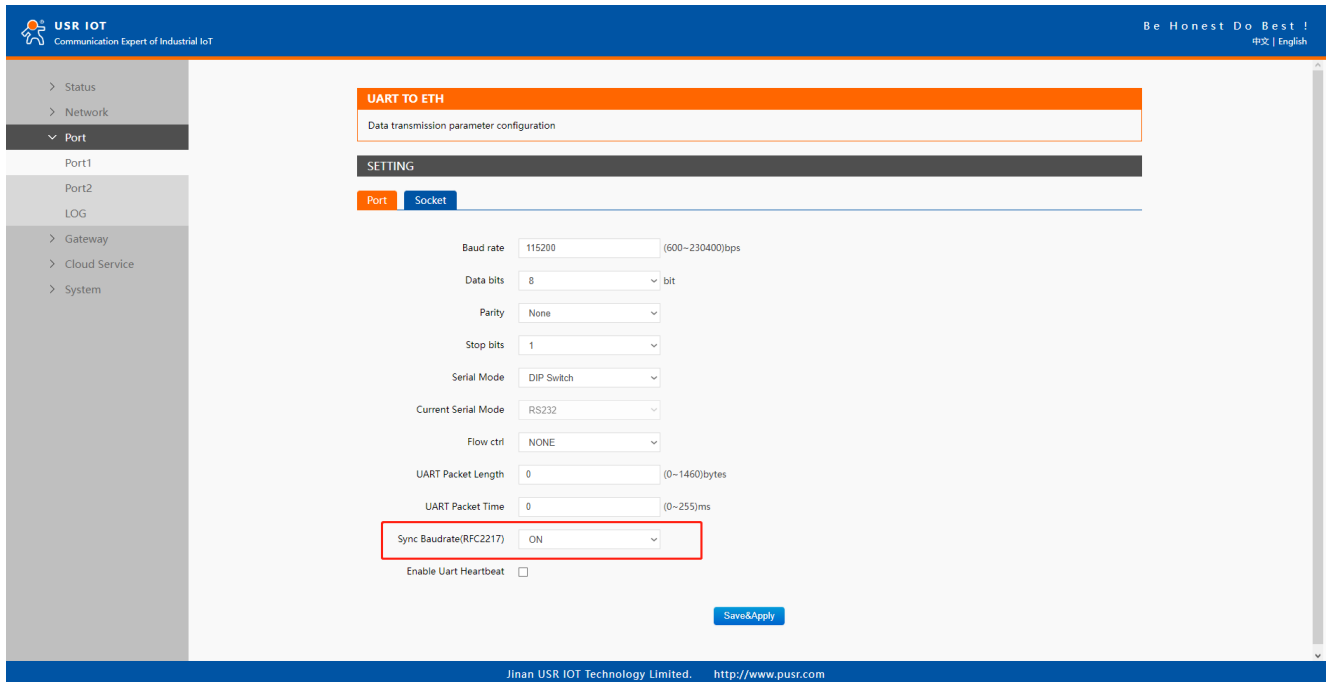

Fig. 68 RFC2217 enabled
Virtual COM on host computer allows remote access of serial devices over TCP/IP networks through Serial/IP Virtual COM ports that work like local native COM ports. Fig.68 is an example of Virtual COM application diagram. There are traditionally only two Physical COM ports (COM 1 and COM 2) on the personal computer (PC) while there can be several Virtual COM ports such as COM 11, 12, 13, and so on. This section will provide the procedure to enable Virtual COM (VCOM) on Windows based PC. Please follow the steps